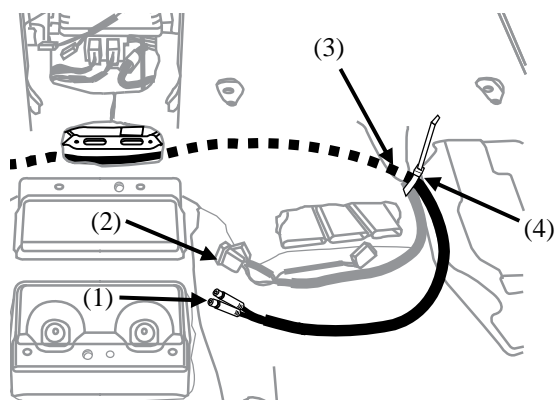

Fig. 11-1
- (1) Align the red and green connectors (1) on one end of the passenger side extension harness with the connectors (2) of the existing vehicle harness under the passenger seat location. (Fig. 11-1)
- (2) Route the passenger side extension harness along the existing vehicle harness under the carpet through the carpet opening (3) under the seat and secure with one 8" cable tie (4). (Fig. 11-1)